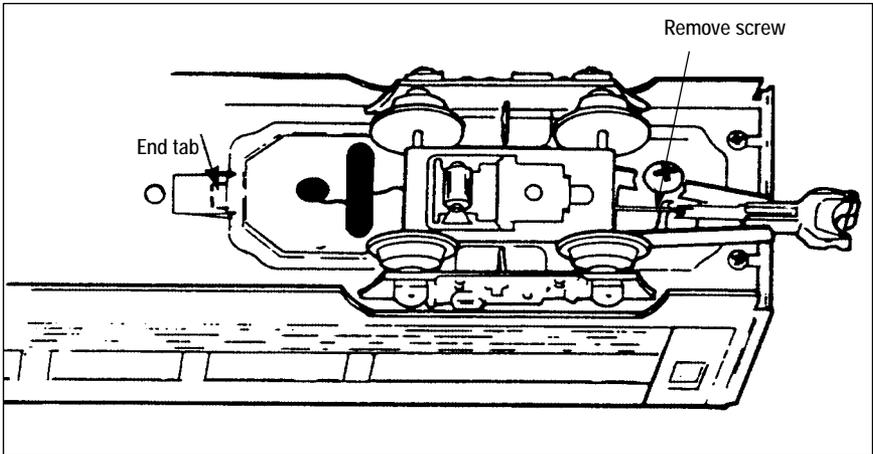

Figure 3. Truck removal
1. Remove the screw and pull the end tab out of the frame. Refer to Figure 3